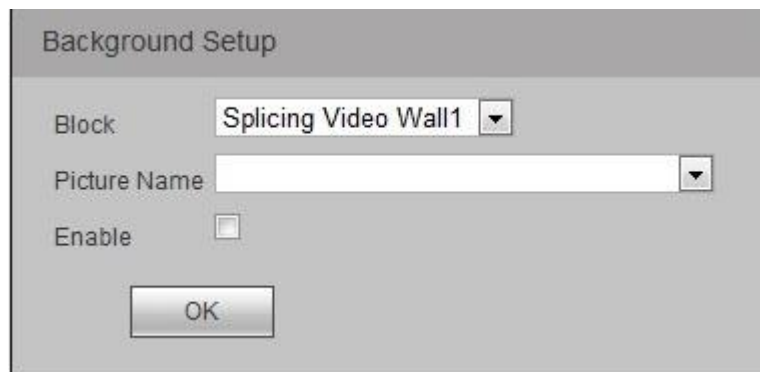

Figure 4-24
Step 1 Click . The system displays “Background Setup” interface, as shown in Figure 4-24.